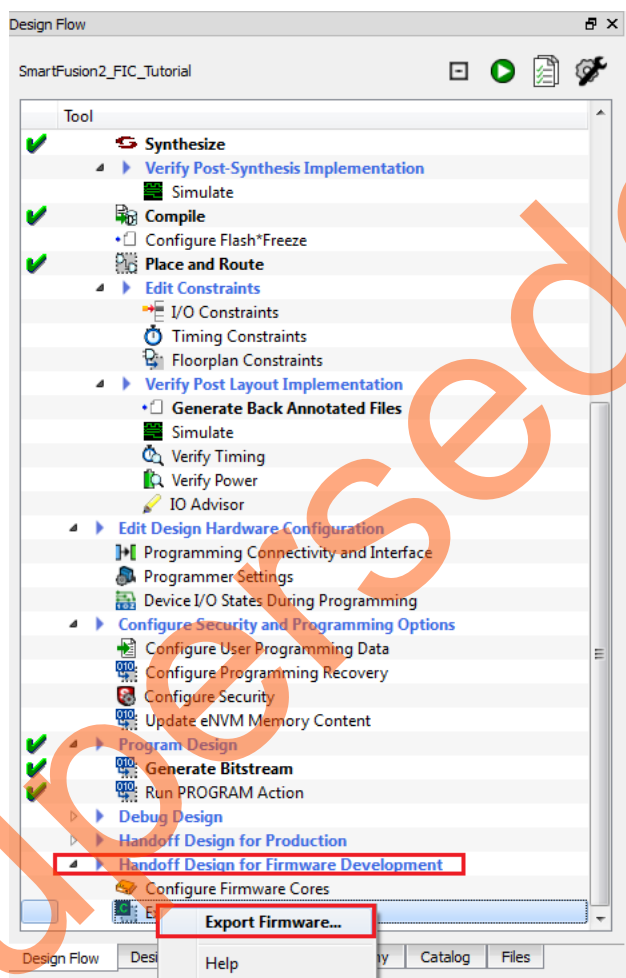

Figure 40 • Handoff Design for Firmware Development
2. Right-click and select **Export Firmware...** as shown in Figure 40. The Export Firmware dialog box is displayed.